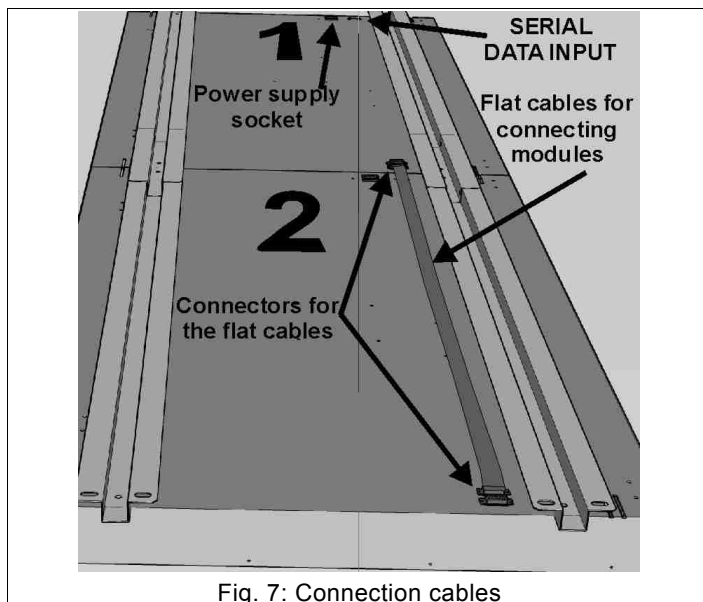
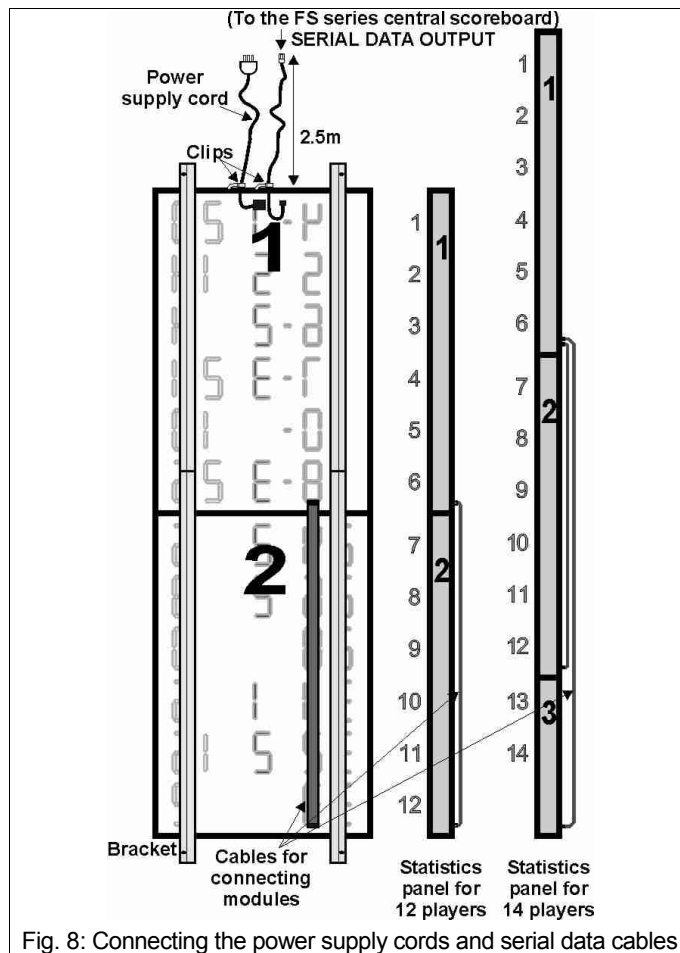

Fig. 7: Connection cables
Fig. 8: Connecting the power supply cords and serial data cables
3. Place the modules face down on the floor and in numerical order according to the numbers on the back of each (Fig. 8), so as to assemble the desired panel (see various models in chapter 1). Then position the two brackets above the modules and align the holes. Using the screws provided and a Phillips screwdriver, fasten the brackets to the modules (Fig. 6).
Once the various modules of a statistics panel have been joined together by the brackets, you may proceed to their electrical connection. On the back of each module the following connectors can be found (Fig. 7):
1. By using the flat cables, connect the top module to each of the other statistics panel modules (Fig. 7, Fig. 8).
2. Insert the power supply cord in the proper socket and fasten the other end to the top part of the panel with the clip provided for this purpose (Fig. 8); this is to enable the power supply plug to be positioned over the statistics panel once the panel is installed on the wall.
3. A 3m thin cable is provided for each statistics panel displaying fouls/points. This cable should be inserted into the "SERIAL DATA INPUT" connector and then fastened above the statistics panel by means of a provided clip. Circa 2.5 m of cable should be left free (Fig. 8) in order to make connecting to the serial data cable easier once the module has been installed on the wall .